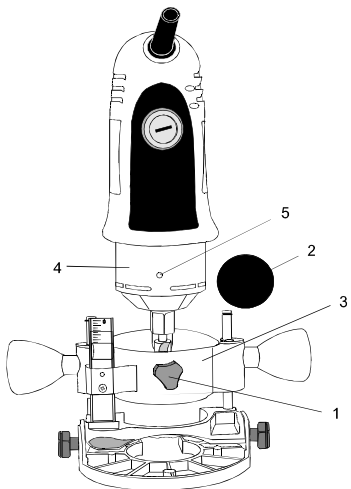

Fig. 15
2. Remove accessory locking knob (1) from the base of the spin saw motor housing (see Fig. 15). Depress the motor shaft locking button (2) on the back of the motor housing (see inset).